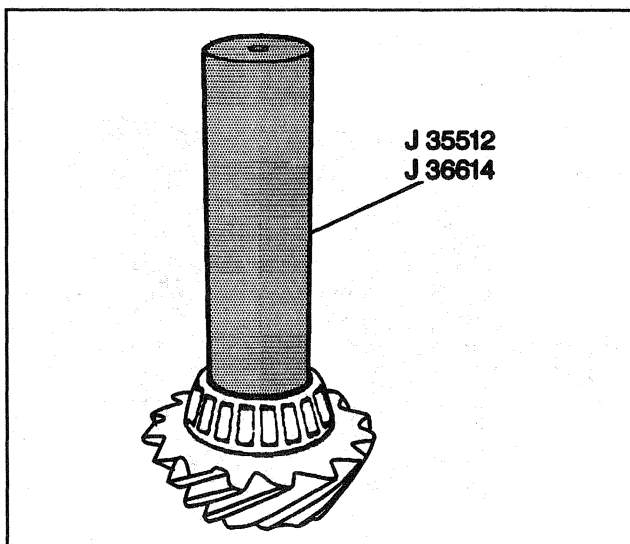

Figure 30—Installing the Pinion Bearing
2. Bearing onto the pinion gear using J 35512 (K1 and K2 models) or J 36614 (K3 models) (Figure 30).